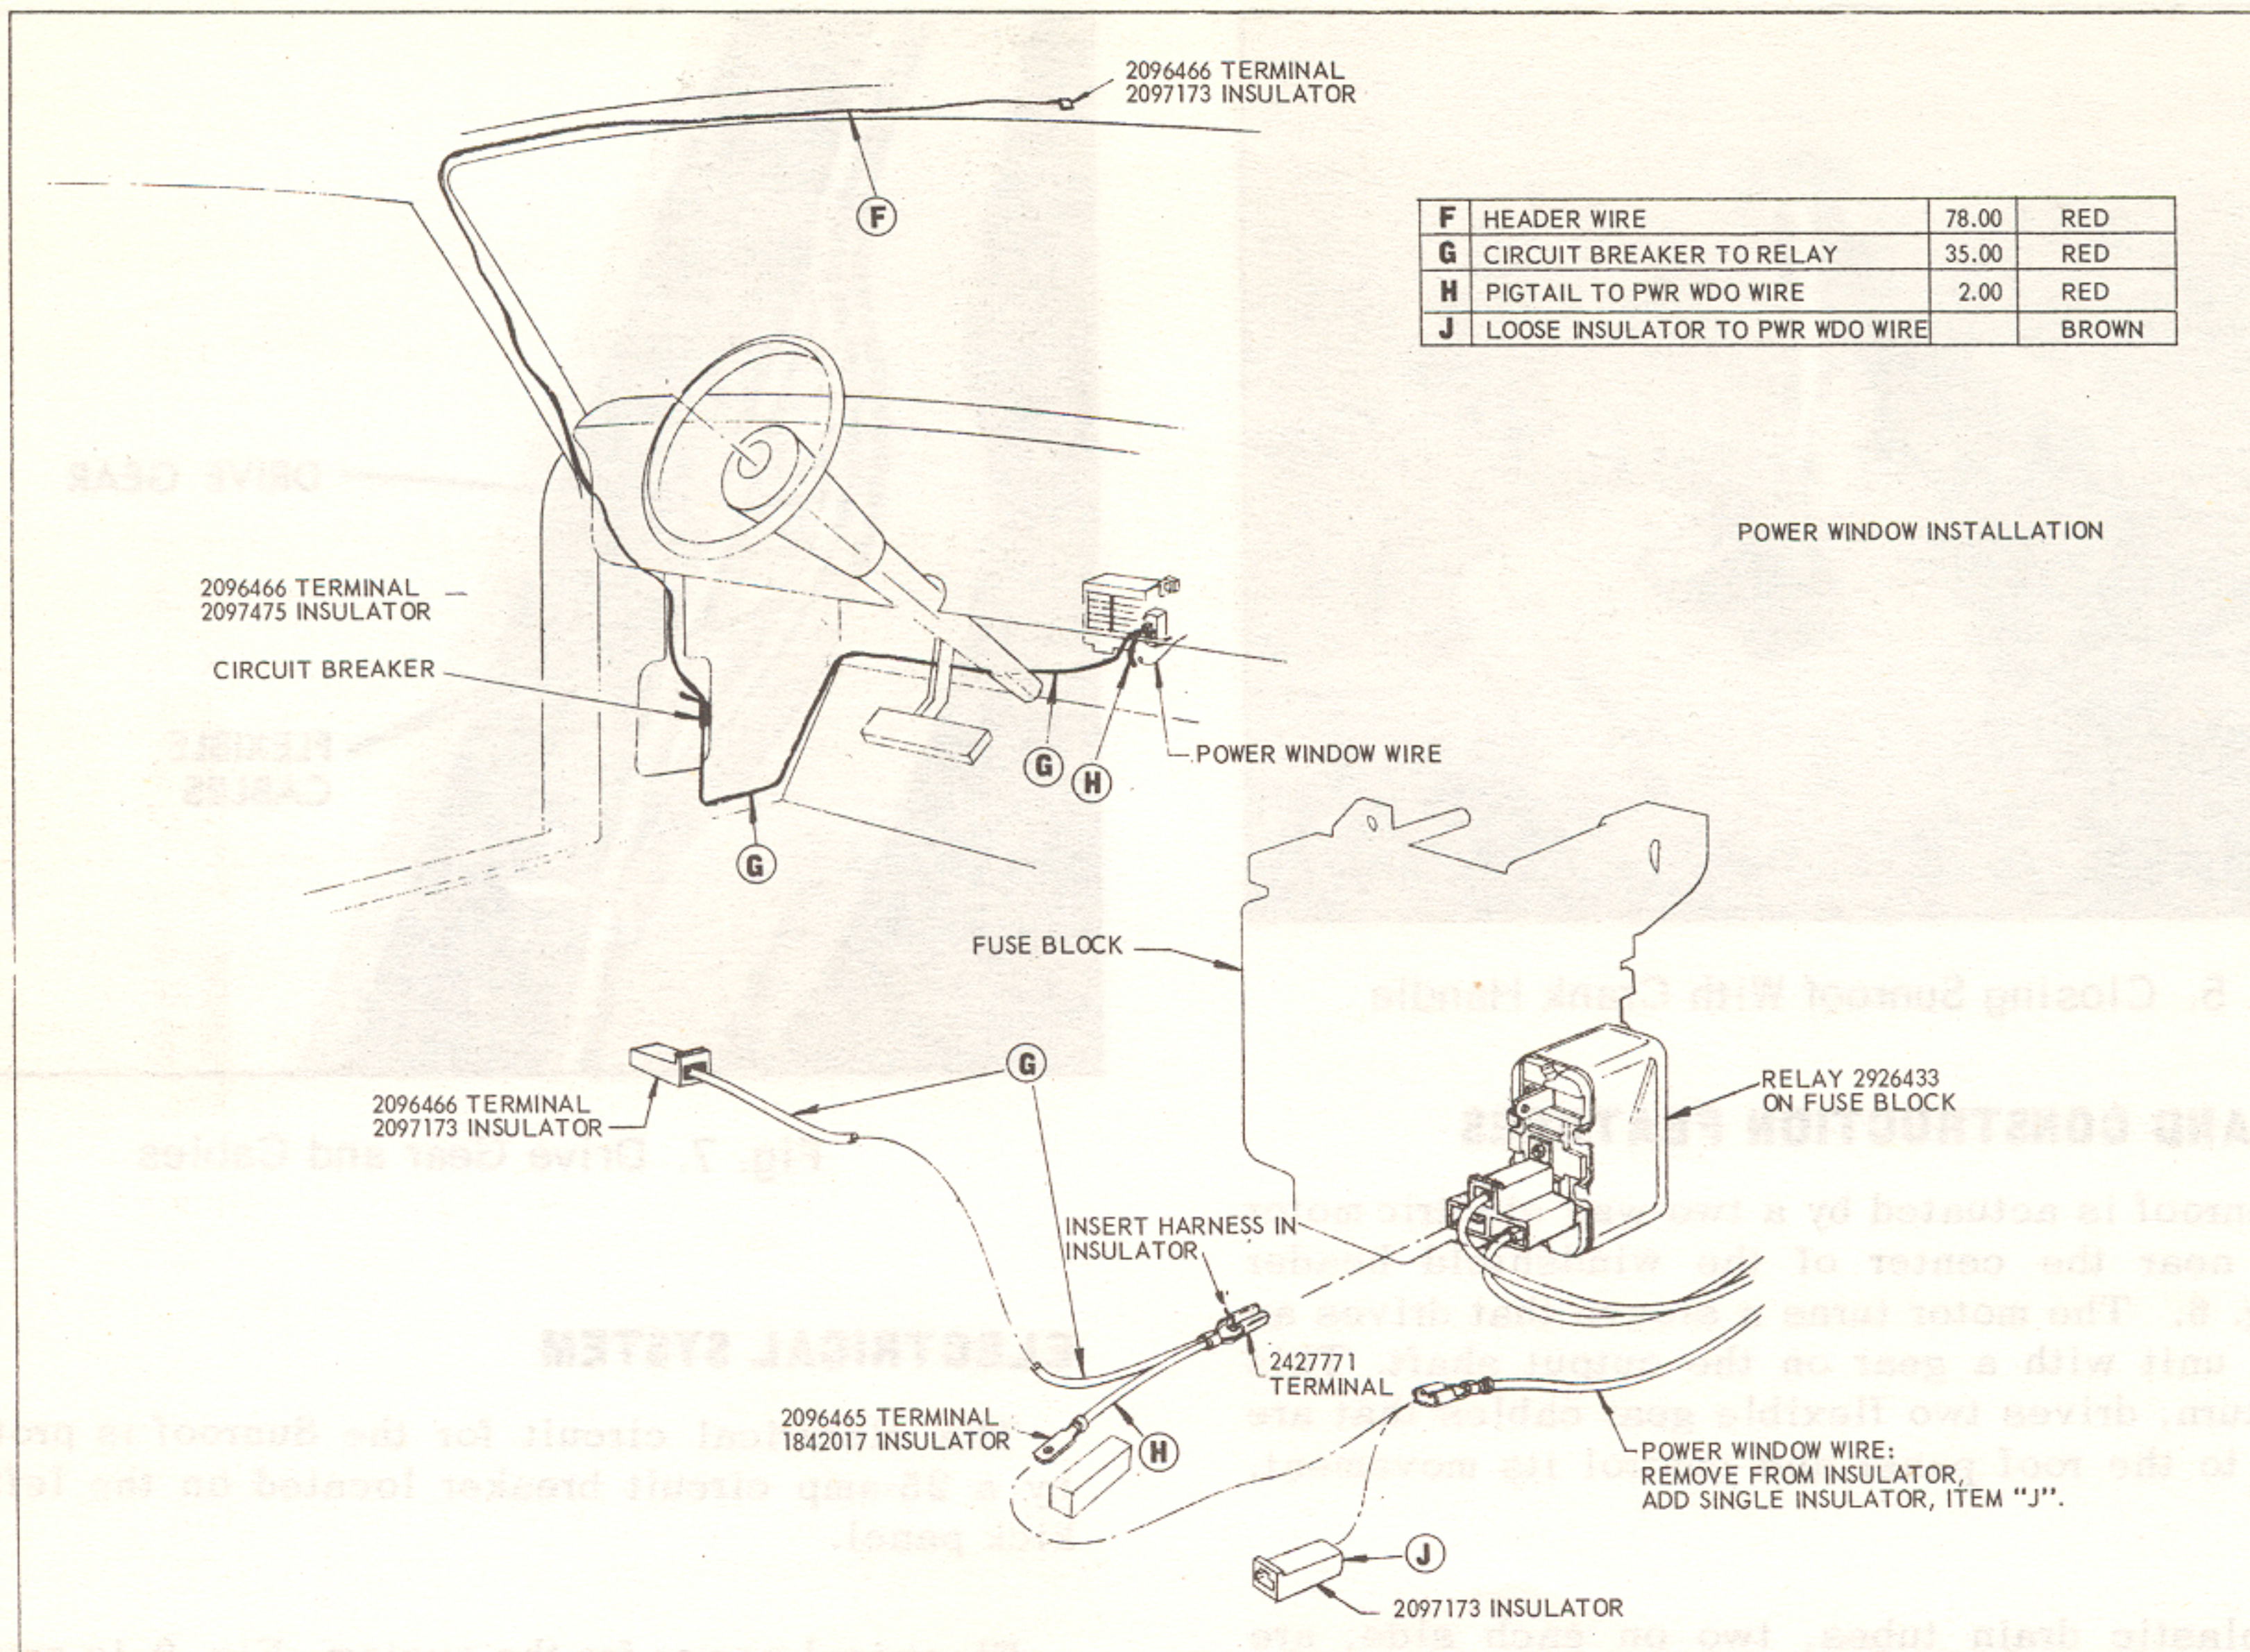

Fig. 9. Power Windows
Electrical power for the system, Fig. 9, is supplied from the fuse block through a red wire to the 25-amp circuit breaker. Another red wire is routed from the circuit breaker that leads to the control switch on the roof panel. Two wires--one for the open cycle and one for the close cycle--are routed from the switch to the motor. A wire from the motor is grounded to the windshield header by a screw.
2. Motor Fails to Run (Fig. 9)